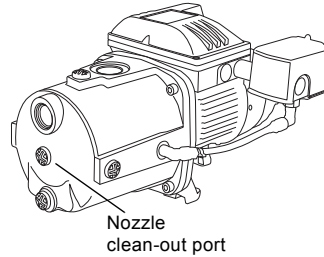

Fig. 10 Locating nozzle clean-out port
1. Remove clean-out port plug located below the inlet port. See fig. 10.